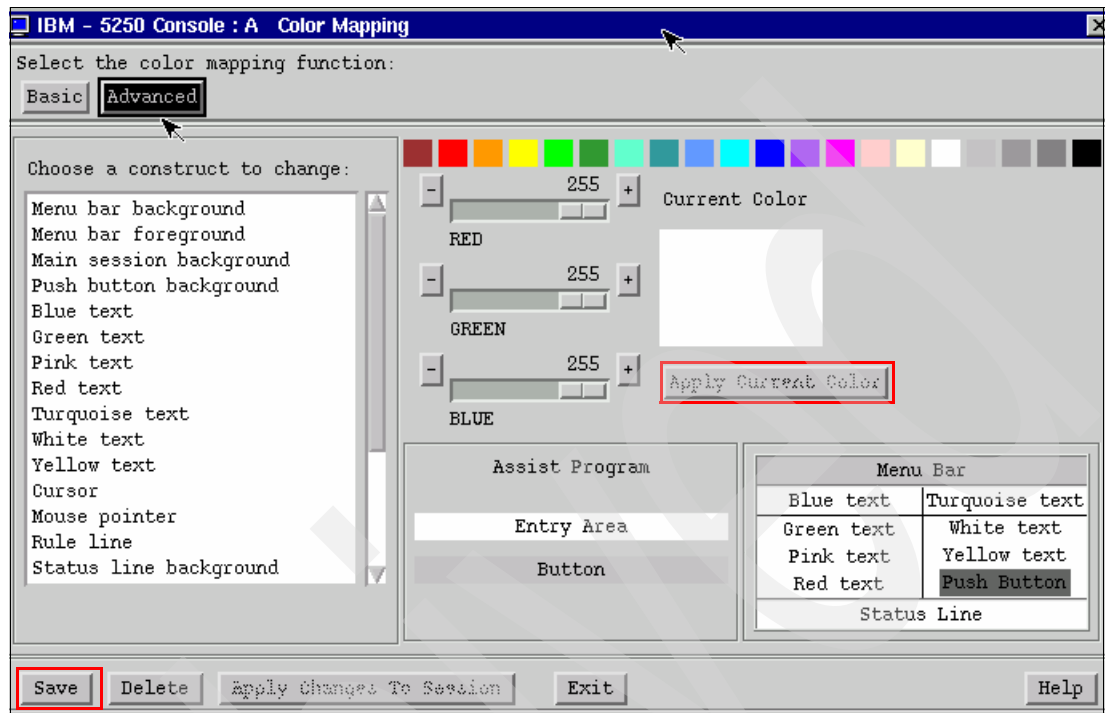

Figure 4-37 5250 session color mapping function
3. Click **Advanced**. Select a construct from the left column and change it to the color of your preference. Click **Apply Current Color**. When you are finished, click **Save** to save your changes to a new, user-defined color scheme (Figure 4-37).